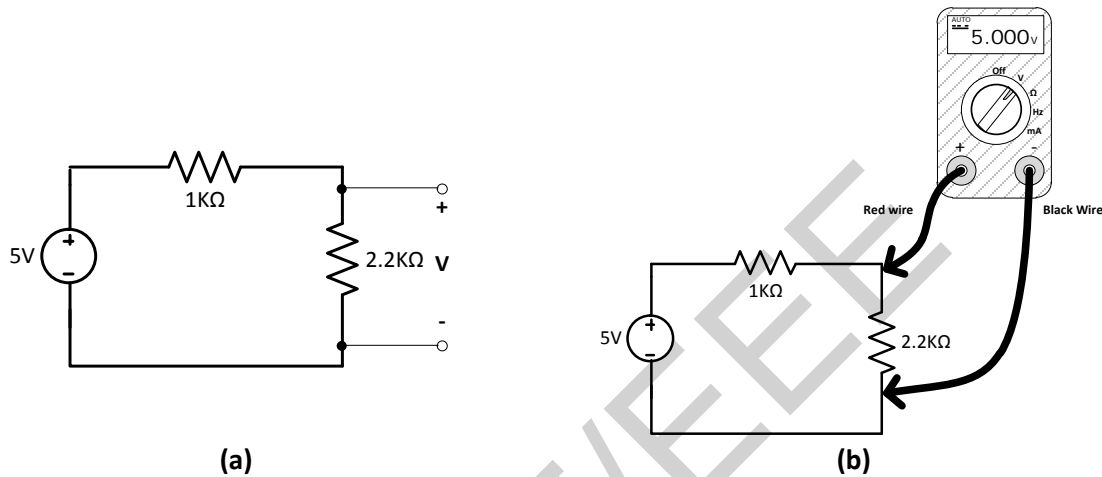

Figure 1.4: Circuit diagram and actual connection for measuring voltage
1. To measure the voltage across the $1\text{K}\Omega$ resistor circuit in Fig 1.4 (a), construct the circuit as shown in Fig 1.4 (b).
3. Connect the red and black multimeter lead as shown in the Fig 1.4(a) (**parallel to the resistor**)